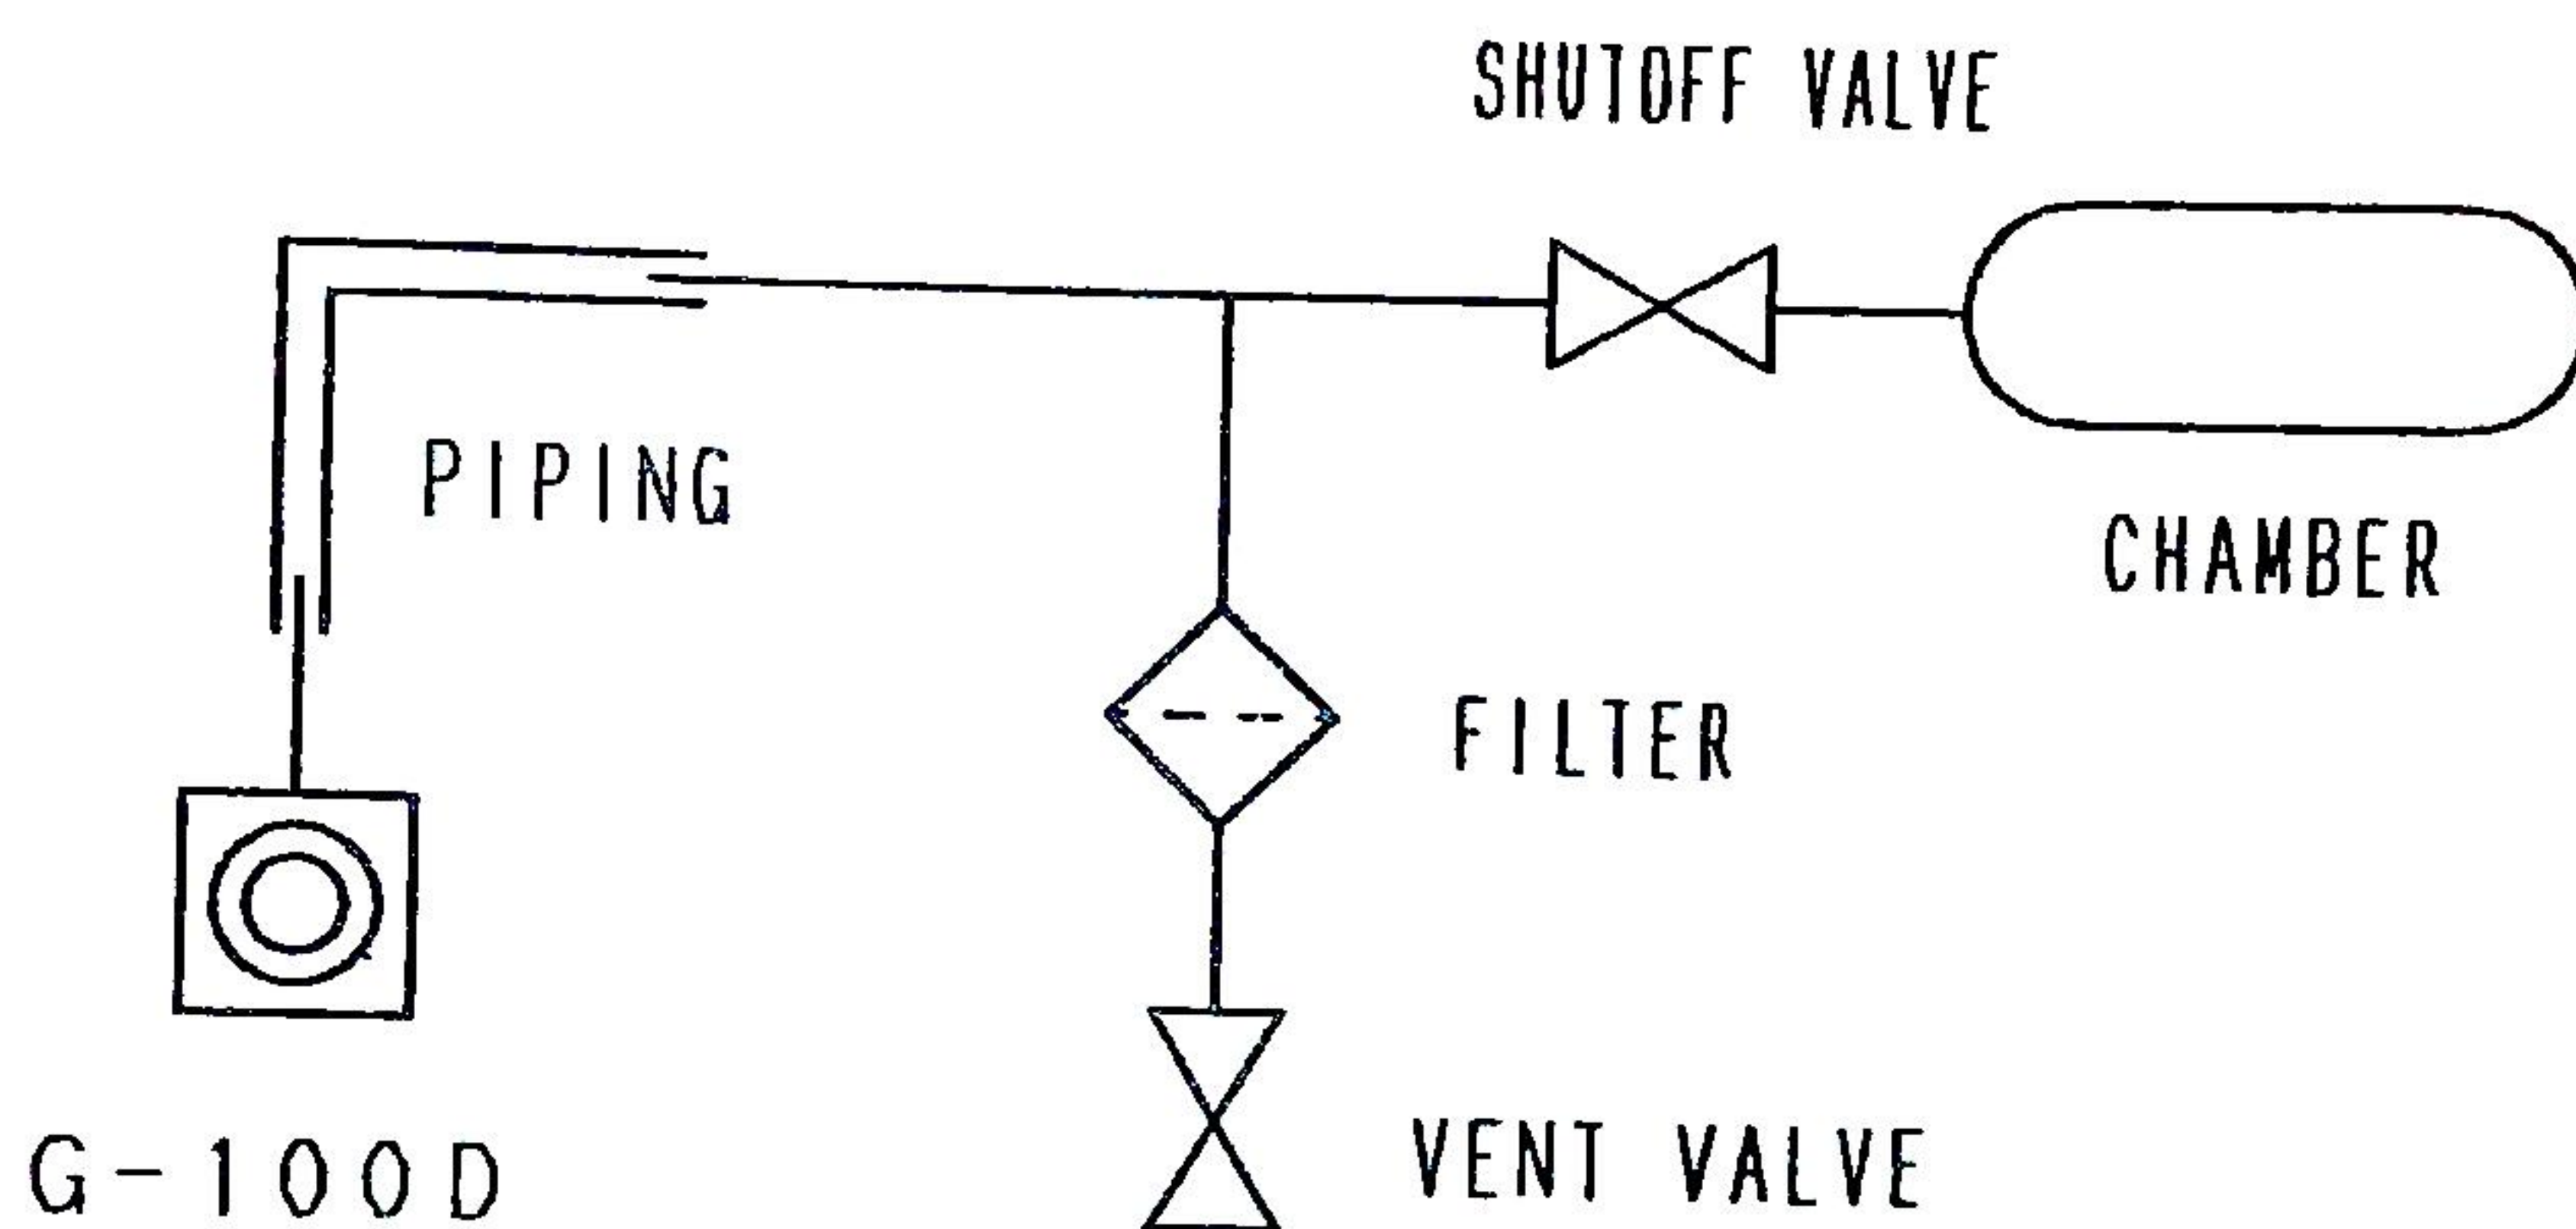

Fig. 3 Piping arrangement
(15) When evacuating a chamber, provide a shutoff valve between the pump and the chamber to keep the chamber in vacuum after completion of operation. Also provide a vent valve between the shutoff valve and pump as shown in the figure 3 below to prevent oil from flowing back after completion of operation.
- (1) Shut down the pump and wait until the pump temperature lowers.
- (2) Remove the piping, if connected, and make the pump bare. At this time, close the shutoff valve. (See Fig. 3.)
- (3) Operate the pump with the suction port vented to atmospheric
- (4) Prepare an oil container (more than one liter) to receive the drained oil and place it in a receiving position.
- (5) Remove the oil inlet plug and then the oil discharge plug (with O-ring) to drain pump oil.